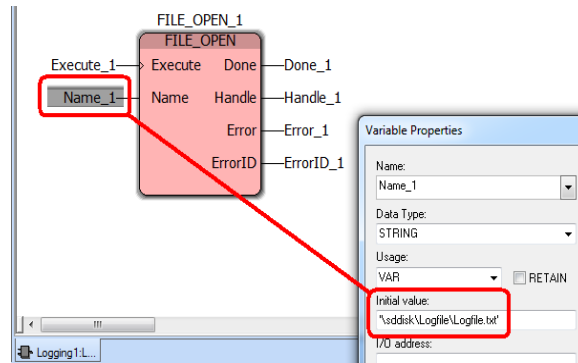

Figure 6-38 Opening the "Logfile.txt" file using the FILE_OPEN function block
Figure 6-38 shows a FILE_OPEN function block for opening the "Logfile.txt" file in the "\ssdisk\Logfile" directory.
- In the "Variable Properties" dialog (shown on the right in Figure 6-38) always enter the complete path and the file name.